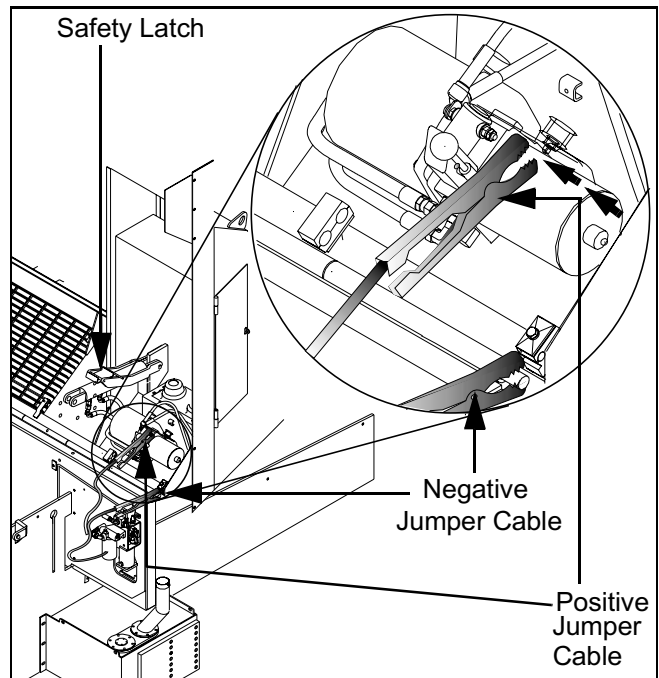

Figure 3 - 2 Connecting Jumper Cables
If the paver's batteries become discharged, jumper cables must be attached to the solenoid next to the hood raising lever and to the paver frame. (Figure 3 - 2) This will allow the hood raising lever to function in the usual manner.
- 2) Carefully lower hood and relieve pressure from the hydraulic cylinder. (Figure 3 - 2)